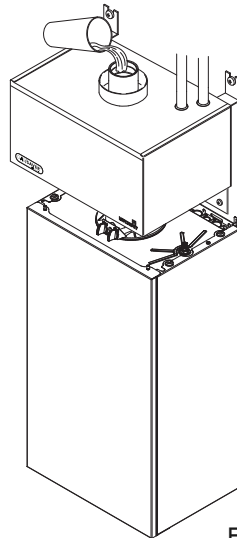

Fig. 6
6. To ensure correct and efficient operation the GasSaver must now be primed (Fig. 6) by pouring 6 litres of clean cold water into the central spigot. **Do not allow any water to spill into the air chamber.**